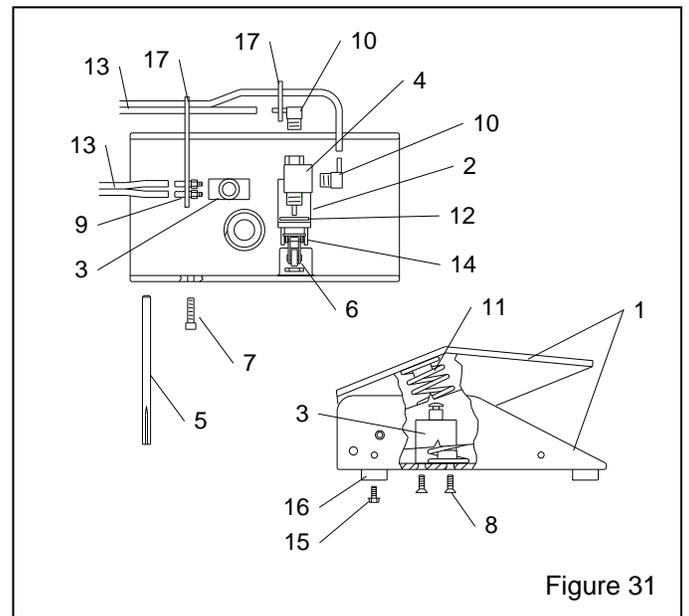

Figure 31
9.7 Foot Pedal Assembly, Figure 31